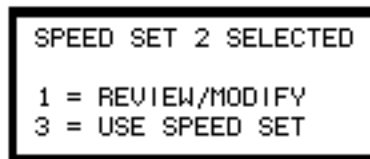

Figure 11
- 1) From the main screen, press the PROG SPEED key and enter the number of the speed set program to be reviewed or modified. You can only select from the "IN MEM" line on the screen display. Figure 11 shows speed set 2 was selected.
- 3) Press the number 3 key to use the speed set (as shown in Figure 11).
- 3) Press key NUMBER 1 = Review/Modify. (See Figure 11)